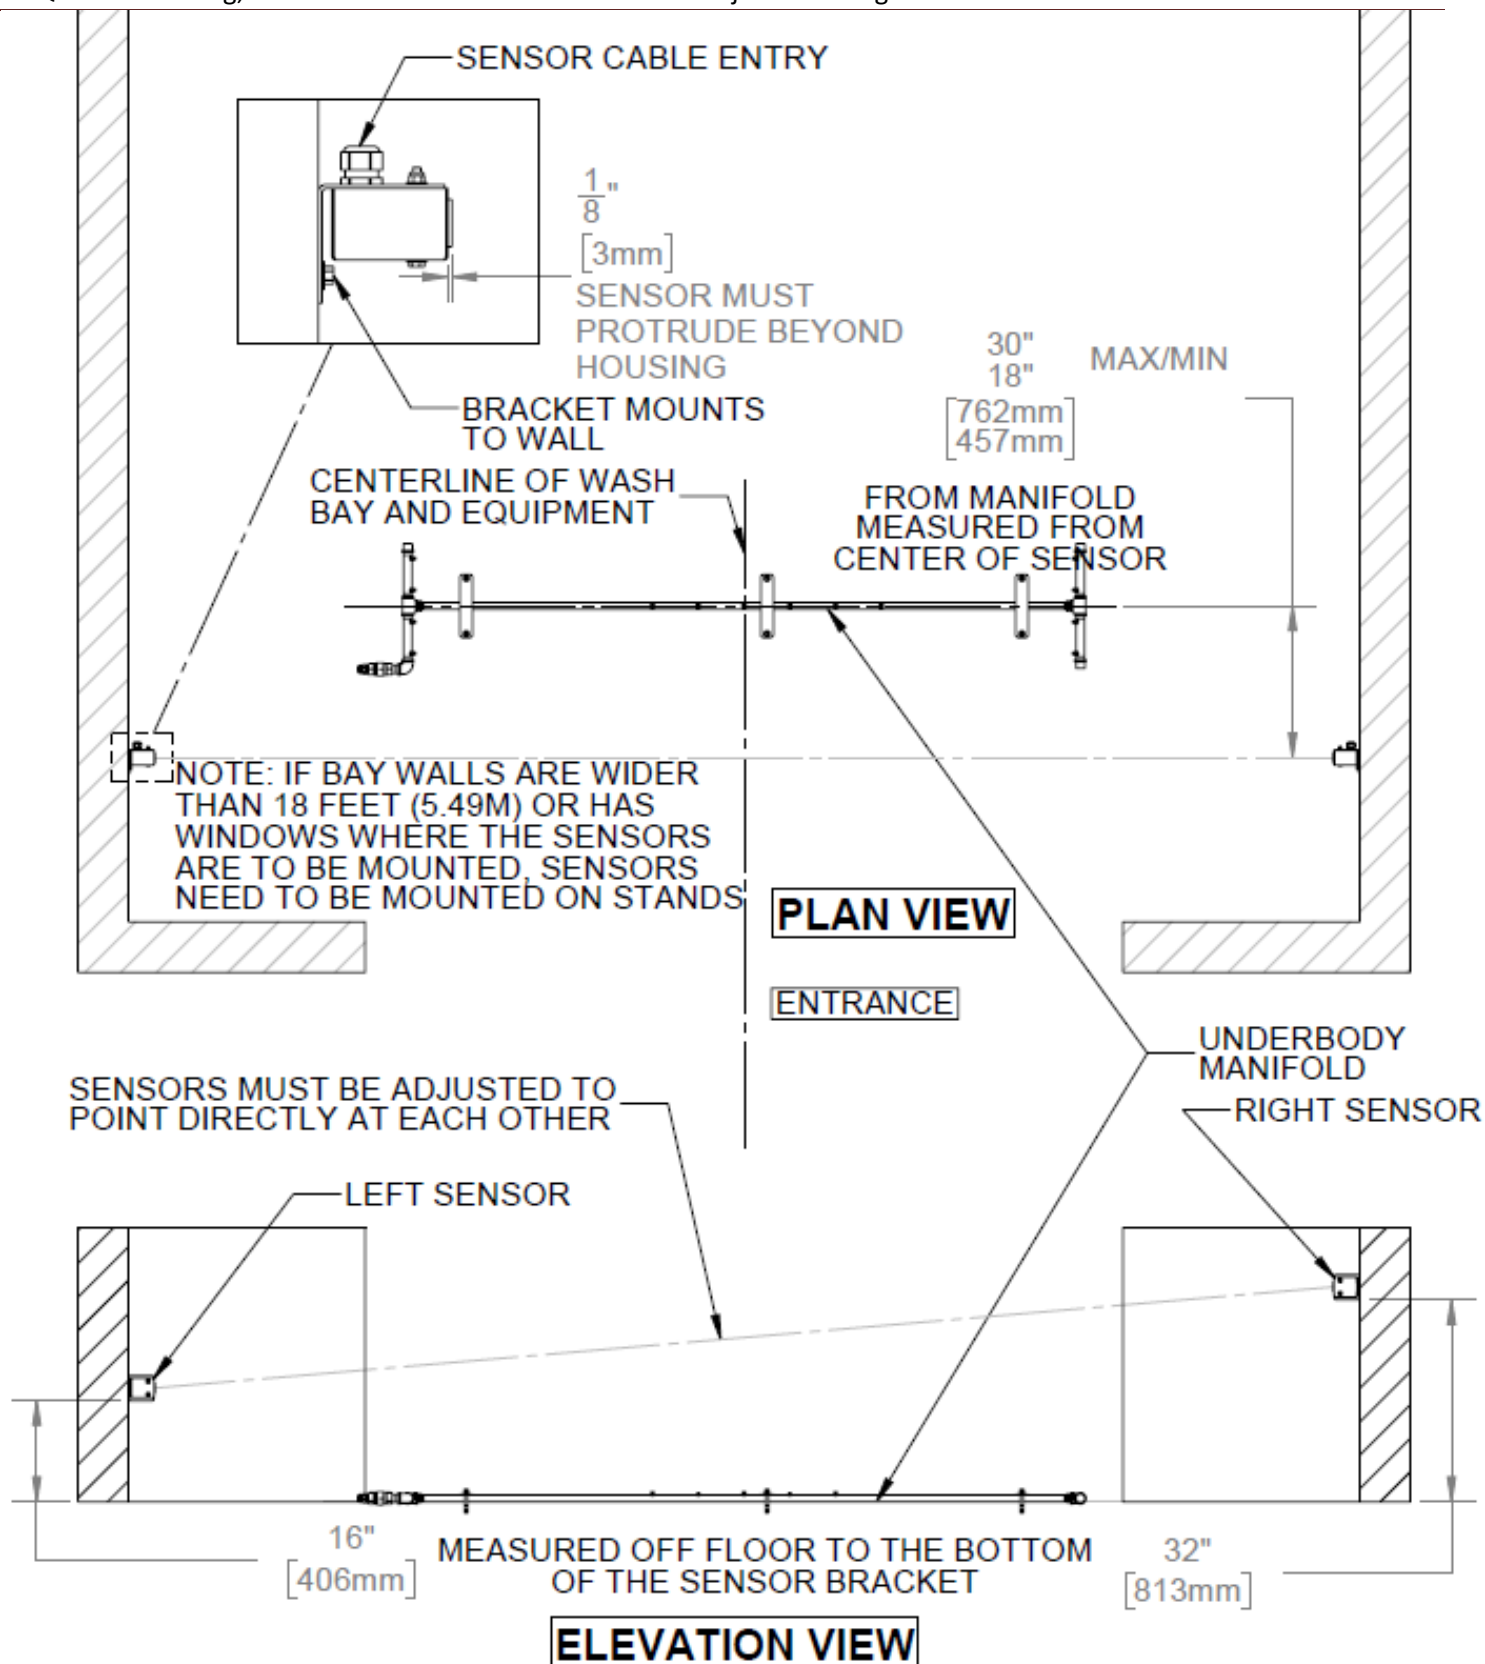

Figure 126 - Wall Mounted Ultrasonic Underbody Activation Sensor Location
- Figure 126 shows the preferred mounting positions for the wall mounted ultrasonic sensor assemblies.
- The wall mounted assemblies are provided with (2) 3/8" x 1 7/8" long sleeve anchors. If these anchors are not appropriate for the wall material, the site is responsible for providing appropriate anchors.
- Mount the sensor assemblies to the walls while taking note of the direction of the strain relief for the sensor cable. Be sure this is pointed in the best direction to accommodate the bay wiring. Ensure the sensor face protrudes from the cover as shown in Figure 126.